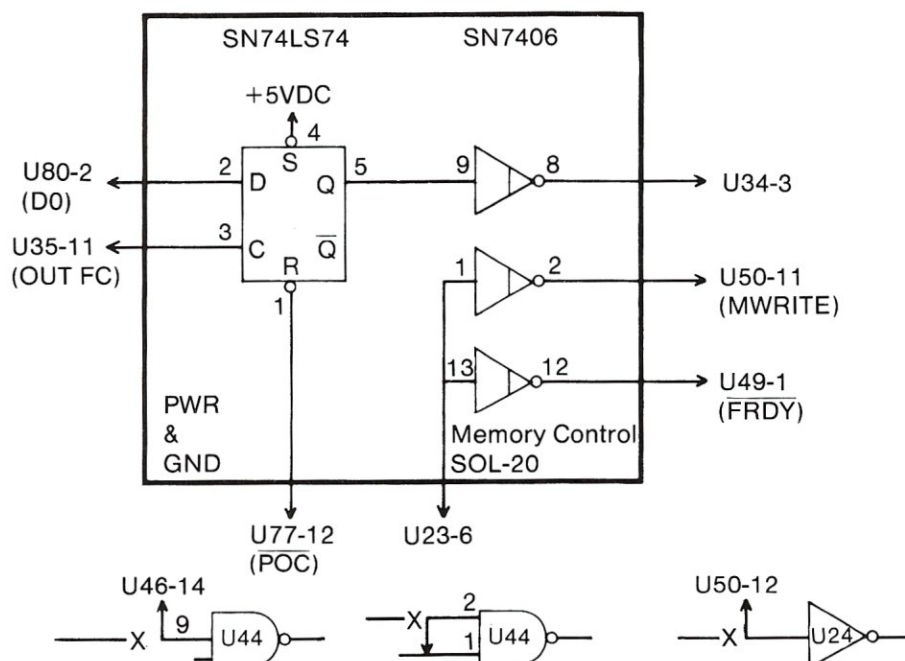

Figure 3.
•Step 1. Build the custom memory management control circuit as shown in figure 3 on a small vector board. Set this board to one side. It will be used in a later step.